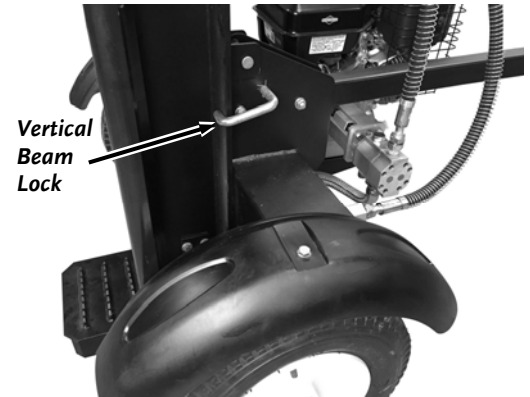

Figure 48
2. To lock the beam in the vertical position, pull out on the vertical beam lock and rotate it to secure the beam (**Figure 48**).
1. Pull out on the vertical beam lock and rotate it down to the unlock position (**Figure 48**).